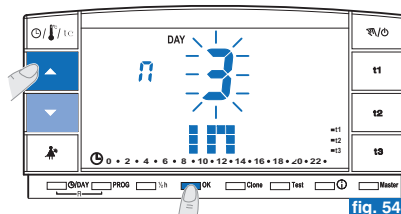

fig. 54
- The display will show (blinking) the month that was previously set in the **OUT** function, using the ▲▼ keys to set the month in which you wish the countdown to end. (return home). Confirm with **OK** (fig. 54).